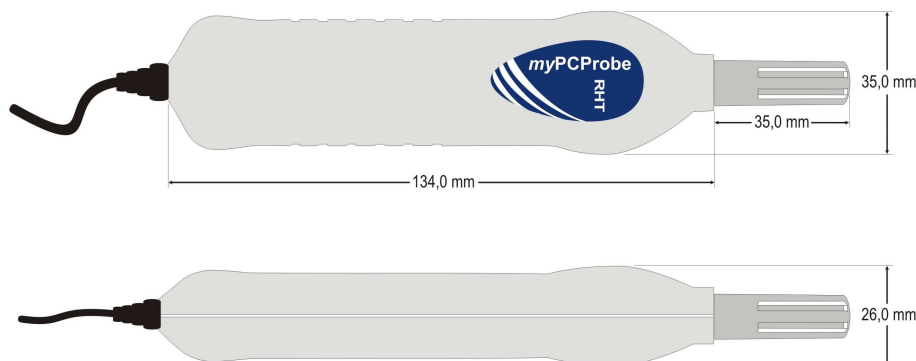

Figure 03 - RHT model dimensions
- **Dimensions:** See Figure 03.